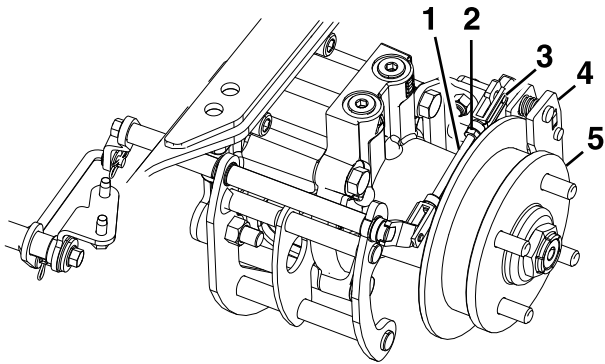

Figure 74
8. Remove the spring clevis pin from the rear linkage and caliper (Figure 74).
12. Tighten the jam nut on the rear linkage (Figure 74).